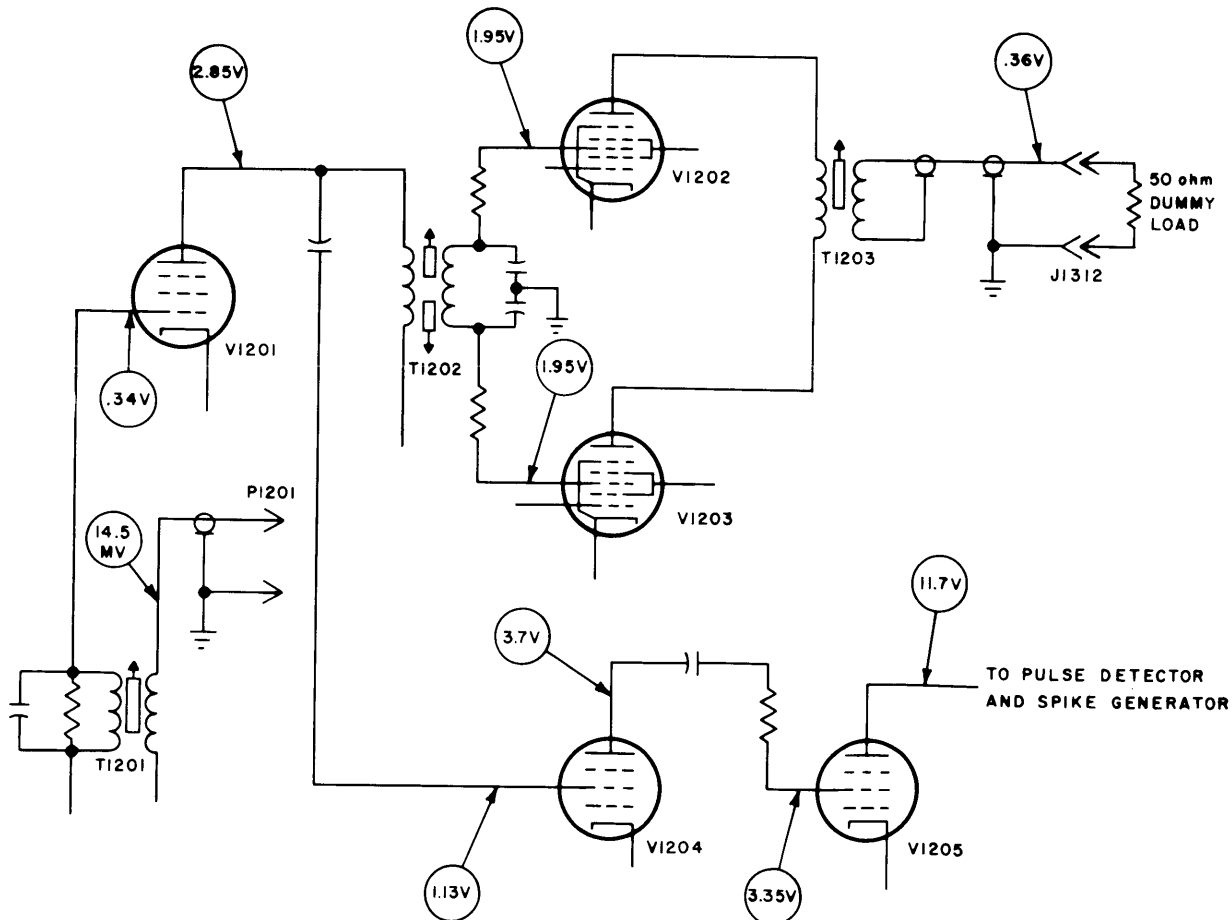

Figure 5-6. Gain of IF Stages
- (1) Connect signal generator to P1201.
- (2) Tune signal generator for 1.75 mc unmodulated signal; adjust signal generator for 14.5 MV input signal.
- (3) Using AC voltmeter, Ballantine Model 314 or equivalent, check gain of each stage as shown in figure 5-6.